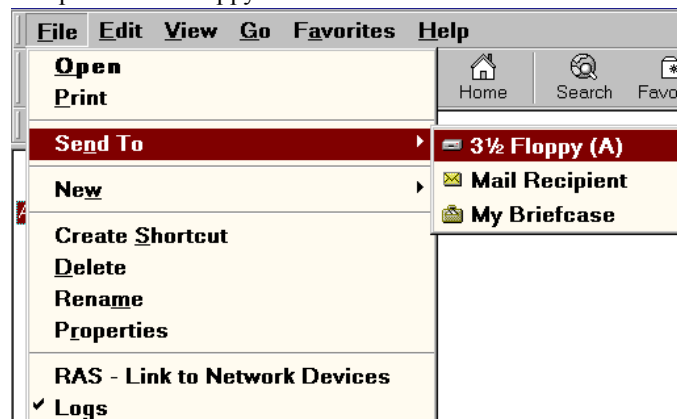

Figure 5-21 Printing Files to a Floppy Disk
Files can also be printed to a floppy disk by clicking on **File** in the upper row menu and then **Send To** and **3 1/2 Floppy (A)**, as shown in Figure 5-21. This will cause the files to be printed to a floppy disk in the Server's **A:** drive.